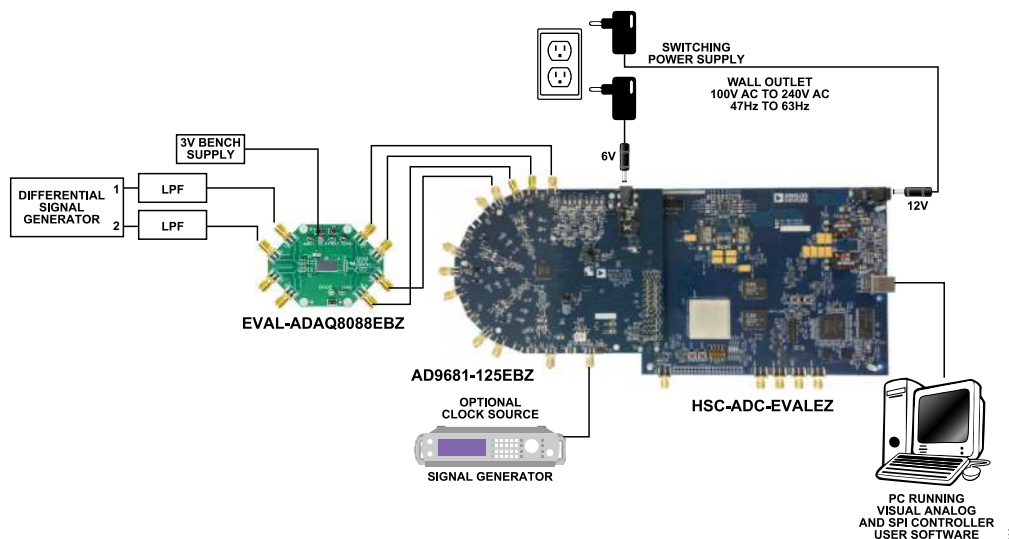

Figure 6. EVAL-ADAQ8088EBZ, AD9681-125EBZ, and HSC-ADC-EVALEZ Connections
2. Take the following steps to modify the AD9681-125EBZ (FMC connector version) of each channel selected (Figure 6 shows Channel A1 and Channel A2 selected for use):
3. Connect the EVAL-ADAQ8088EBZ to the AD9681-125EBZ, as shown in Figure 6, and then connect the AD9681-125EBZ to the HSC-ADC-EVALEZ by aligning each of their field programmable gate array mezzanine card (FMC) connector and carefully press them together. Note that FMC connectors often come from the factory with a sticker that prevents connection. Remove this sticker (if needed) before attempting to make the connection.
- ▶ The I-channel and Q-channel are driven and measured (refer to Figure 6). A sample FFT of the measurement is shown in Figure 5.